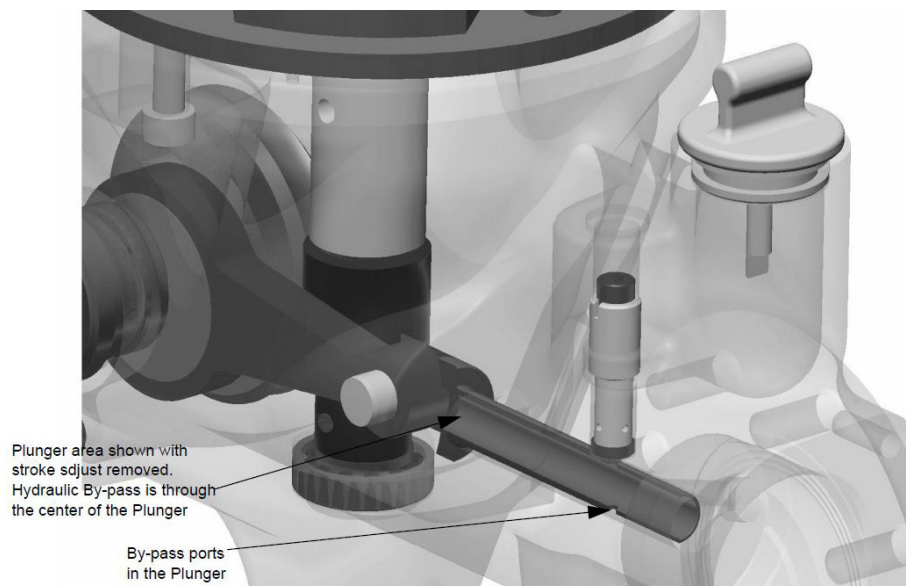

Figure 1. Pumping Action
1.3 PRINCIPLE OF OPERATION (FIGURE 1)
Pumping action is developed and controlled by three basic components as follows (Figure 1):
In operation, on the discharge stroke, the pump plunger and the capacity adjustment spool work to regulate the amount of oil (Figure 1), which is bypassed to the oil reservoir. The plunger moves over the control spool which closes off the by-pass ports. The place where this occurs is dependent on the capacity setting. Then the balance of the plunger displacement is imposed on the flexible diaphragm that moves and displaces the fluid being pumped through the discharge ball check.